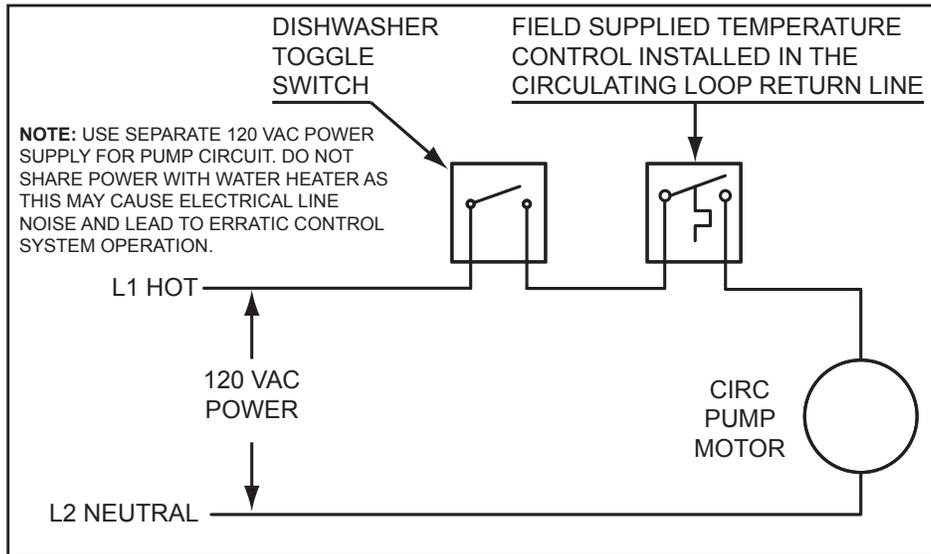

Figure 69. Circulating Pump Wiring Diagram - Dishwasher Loop Toggle Switch
7. If a pump is being installed in a recirculation loop between the water heater and a commercial dishwasher wire according to *Figure 69* (page 71).